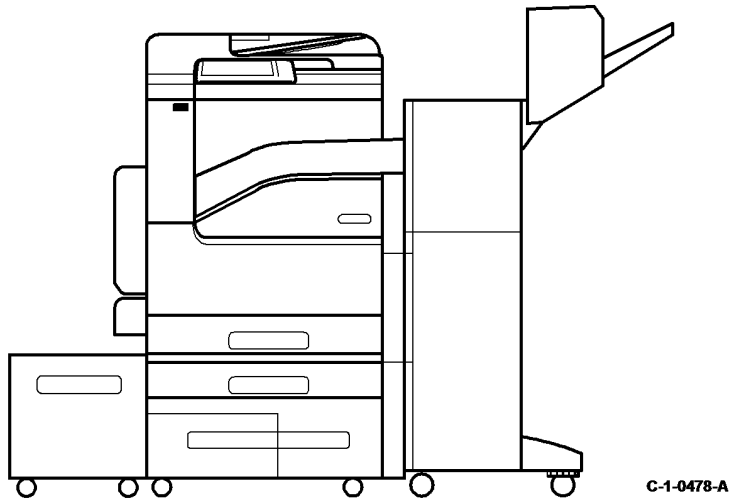

Figure 4 With finisher LX/booklet maker/HCF/TTM
- Xerox® VersaLink® C7020/C7025/C7030 with office finisher LX, booklet maker, HCF and TTM, Figure 4.